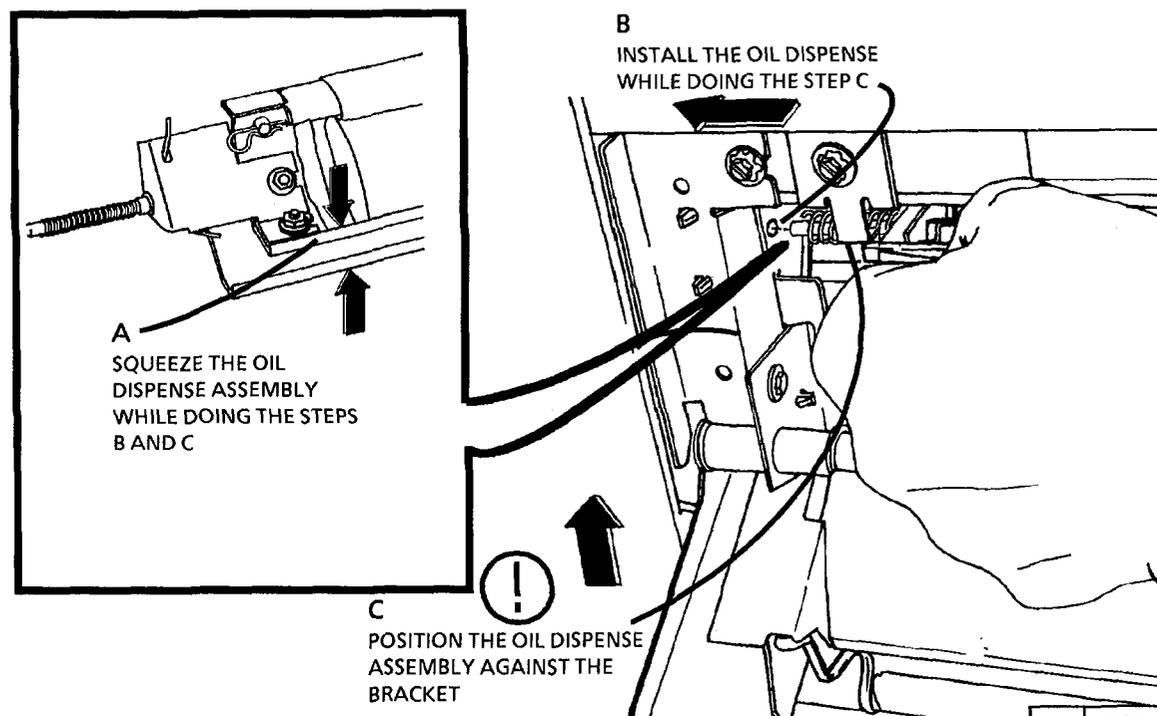

Figure 2. Installing the Oil Dispense Assembly
23. (FIGURE 2): INSTALL THE LEFT SIDE OF THE OIL DISPENSE ASSEMBLY.